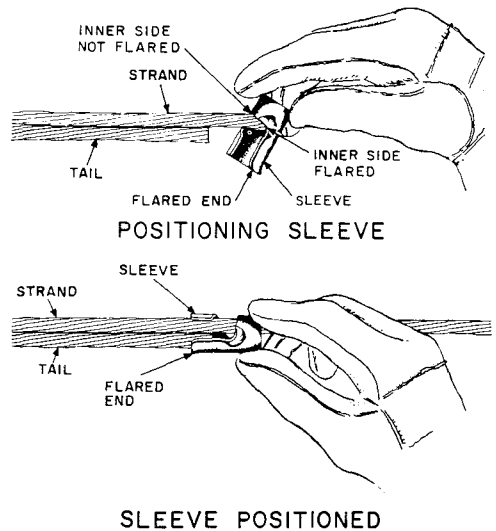

Fig. 17—Installing Strand Serving Sleeve
- (b) Install the sleeve by placing it over the strand at approximately right angles so the flared inner side contacts the tail and the unflared inner side contacts the standing part of the strand. (See Fig. 17.)